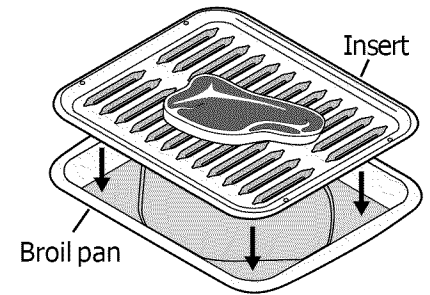

Fig. 4
- When using a pan made especially for broiling, be sure to use only Electrolux Home Products, Inc. approved broil pan & insert (See Fig. 4).